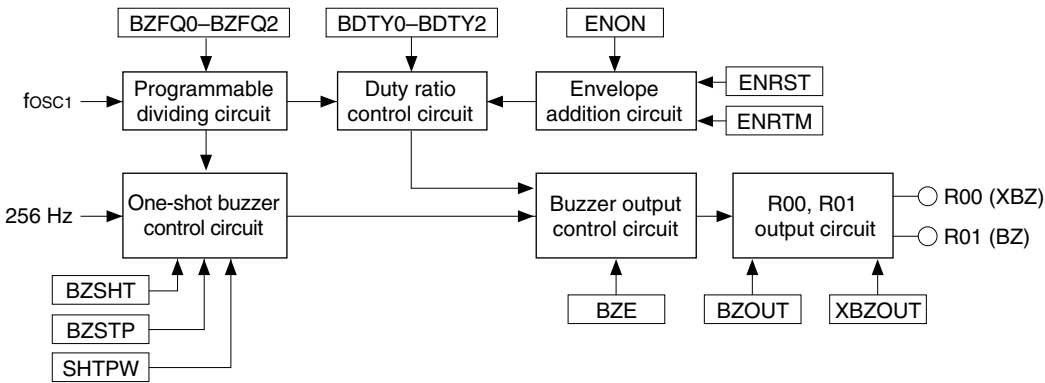

Fig. 4.12.1.1 Configuration of sound generator
The S1C63558 has a built-in sound generator for generating buzzer signals. Hence, generated buzzer signals can be output from the R00 (XBZ) and R01 (BZ) terminals. Aside permitting the respective setting of the buzzer signal frequency and sound level to 8 stages, it permits the adding of a digital envelope by means of duty ratio control. It also has a one-shot output function for outputting key operated sounds. Figure 4.12.1.1 shows the configuration of the sound generator.